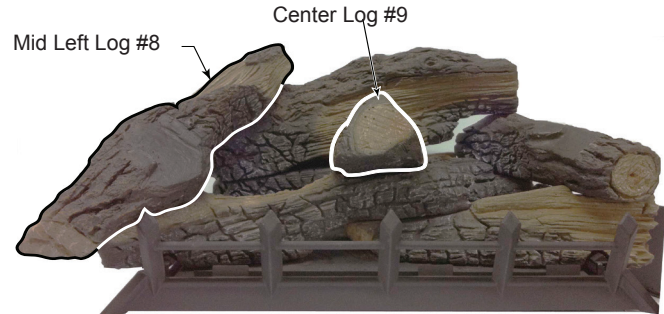

Figure 41
- Place mid left log (#8) on mid rear log (#7) and front bottom log (#5) by placing notches on bottom of log onto locating blocks on log #7 and log #5. *Figure 41*
- Place center log (#9) onto front bottom left log (#5) by placing notch on bottom of log #9 onto locating block on log #5. The flat triangle-shaped end of log #9 should be towards front with pointed end of log resting on bottom rear log (#1). *Figure 41*